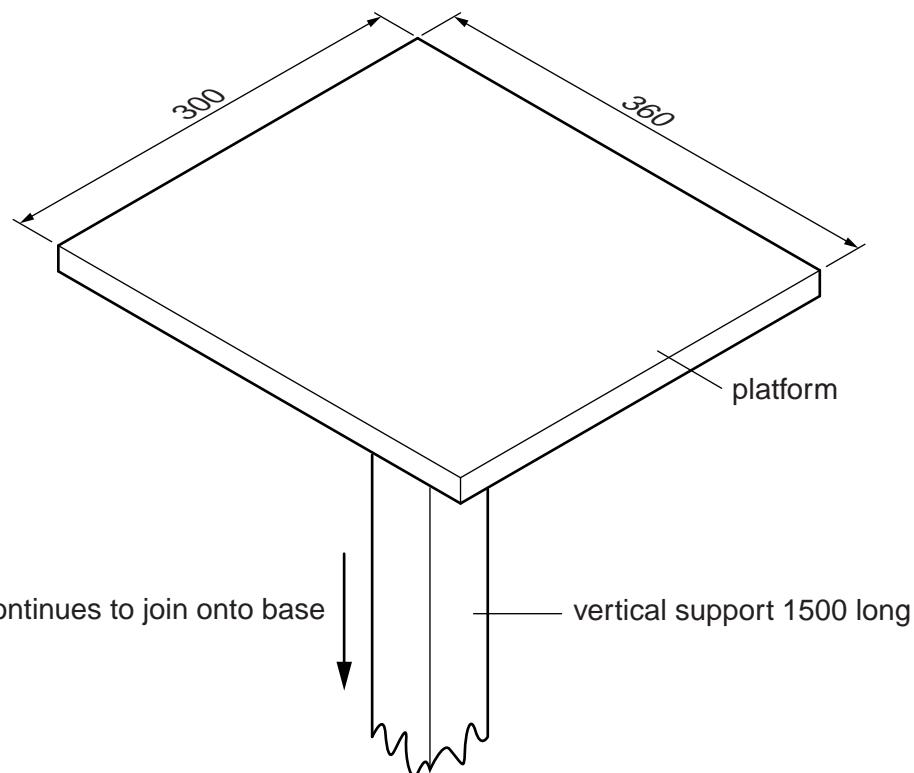

Fig. 11
- 9 Fig. 11 shows an incomplete design for a bird feeding table.